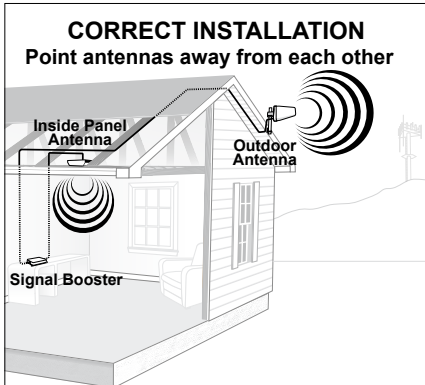

Figure 1
Note: Never point the front of a directional antenna toward the Inside Antenna. See Figures 1 & 2 on page 10.
1. Never point the front of a directional Outside Antenna toward the Inside Antenna. See Figures 1 & 2 above.